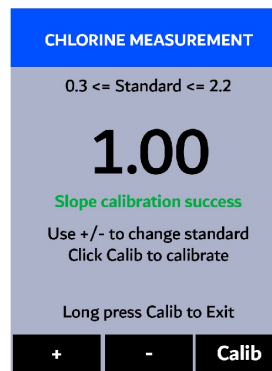

Figure 37.
12. The message “**Slope calibration success**” will appear on the bottom of the display (Figure 37).